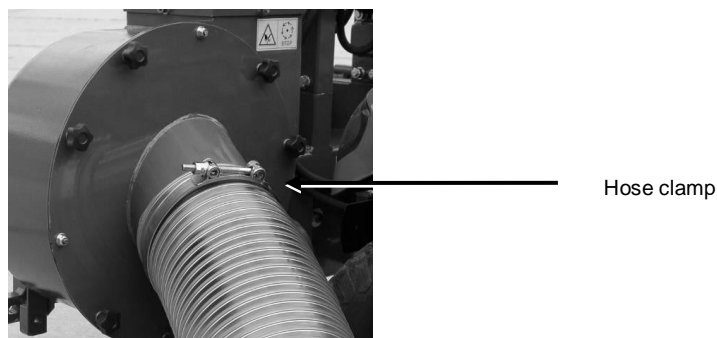

Fig. 54: Suction hose on the turbine cover
16. Slide the suction hose onto the opening on the turbine cover and secure the connection with the hose clamp (see Fig. 54).